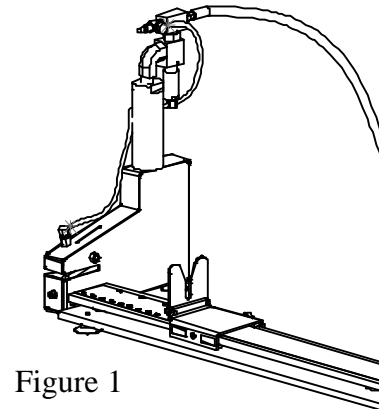
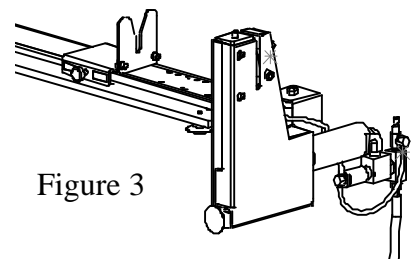

Figure 1
Figure 3
**Note:** The LT300A can be assembled in one of 3 possible configurations as shown in Figures 1, 2, and 3. Figures 1 and 2 show the Cutter Housing oriented horizontally; with the cut opening parallel to the work surface. Figure 3 shows the Cutter Housing oriented vertically; with the cut opening facing upward. This mode requires the use of the Vertical Mount Kit (20) to support the Cutter Housing, which must overhang the right hand edge of the work surface.
## Horizontal Orientation: (Figures 1 & 2)
2. Assemble the Valve and Hose Assembly (18A, 22, and 23) to the Cutter Housing by threading the 1/8" NPT Male Elbow into the top of the Air Cylinder (5) and tightening with the 1/2" open-end wrench. Support the Air Cylinder with the 7/8" open-end wrench while tightening the Valve Assembly. Final position of the Valve Assembly should be similar to those shown in Figures 1 and 2.
3. Connect the sensor tubing to the Trigger Valve (21) and tighten with the 1/4" straight blade screwdriver.
4. Assemble the Wire Guide (14) to the Slide (11) using the two #6-32 x 1/4" screws (16) and lock washers (15). Tighten with the 7/64" Allen wrench.
5. Mount the Slide Assembly on the Top Plate of the Rail Assembly with the Wire Guide toward the Cutter Housing and insert the Thumbscrew (12) into either side of the Slide to secure.
## Vertical Orientation: (Figure3)